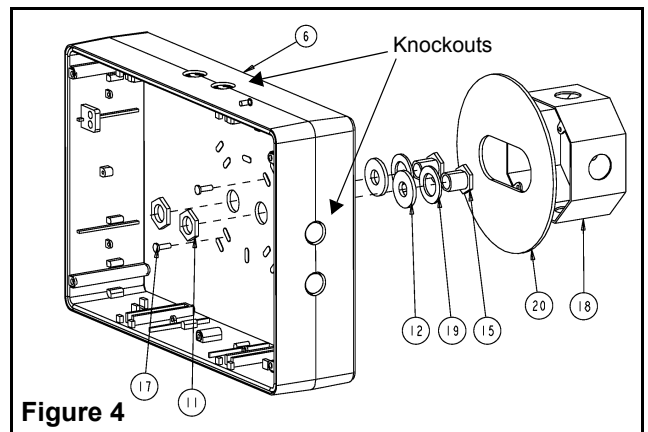

Figure 4
For **Nexus** option, install the liquid tight fitting, provided with the unit. For Ceiling mount, use the k’out located on side of the unit (opposite side of the diagnostic display). For Side mount, use the k’out located on top of the unit (see fig. 4).
- a. Remove the backplate from the packaging. Determine the proper knockouts to remove for mounting to a junction box (see fig.4). For **Nexus** option, install the liquid tight fitting, provided with the unit (see fig. 4).
- c. Mount parts 11, 12, 15, 17 & 19 to backplate, as shown in fig. 4, and reinstall the backplate to the frame using the 4 tamper-proof screws (use the supplied bit).